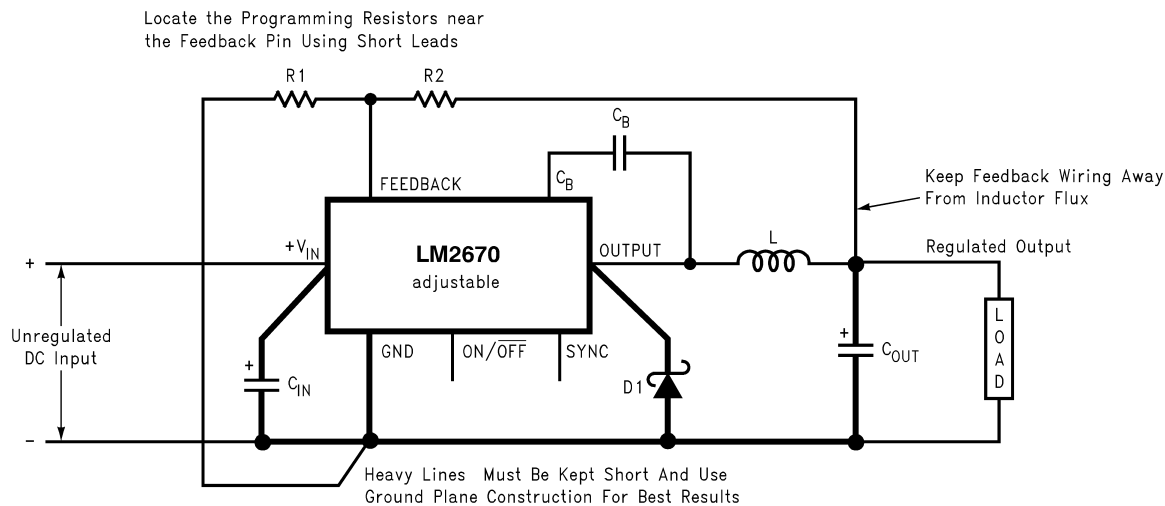

FIGURE 2. Basic circuit for adjustable output voltage applications
Step 2: Select an LM2670S-ADJ. To set the output voltage to 14.9V two resistors need to be chosen (R_1 and R_2 in *Figure 2*). For the adjustable device the output voltage is set by the following relationship: